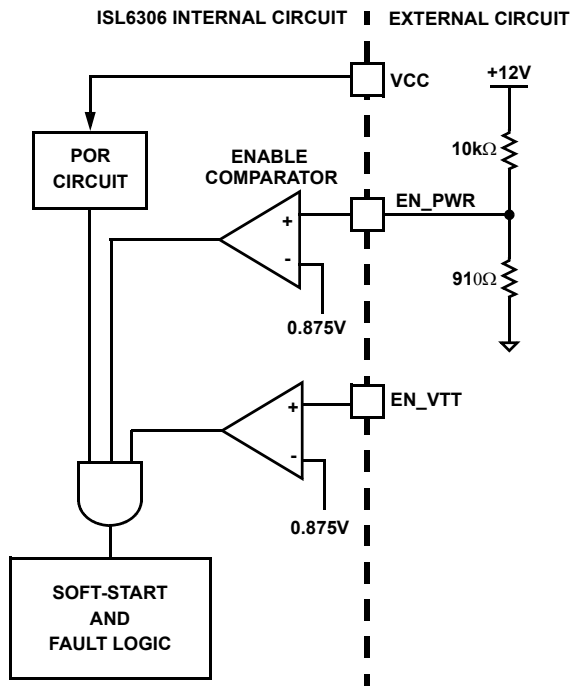

FIGURE 10. POWER SEQUENCING USING THRESHOLD-SENSITIVE ENABLE (EN) FUNCTION
2. The ISL6306 features an enable input (EN\_PWR) for power sequencing between the controller bias voltage and another voltage rail. The enable comparator holds the ISL6306 in shutdown until the voltage at EN\_PWR rises above 0.875V. The enable comparator has about 130mV of hysteresis to prevent bounce. It is important that the driver ICs reach their POR level before the ISL6306 becomes enabled. The schematic in Figure 10 demonstrates sequencing the ISL6306 with the ISL66xx family of Intersil MOSFET drivers, which require 12V bias.